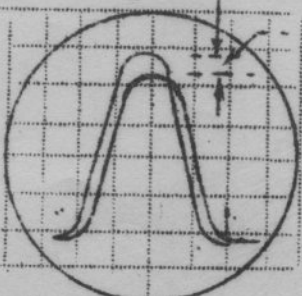

FIG. 8 HUM DUE TO IMPROPER FILTERING
22. **HUM:** If in aligning receivers a difference in the height of the two curves is noted as illustrated in Fig. 8, this will undoubtedly be caused by defective filtering in the power supply of the receiver and the correction in this case would be to replace the filter condensers or chokes in order to eliminate this hum.